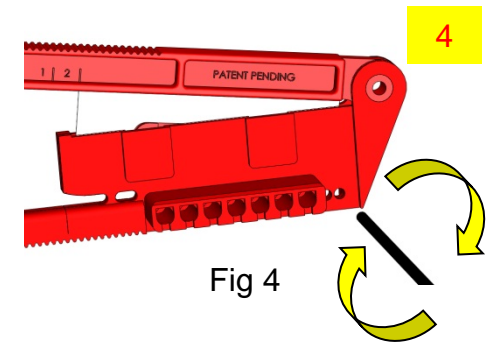
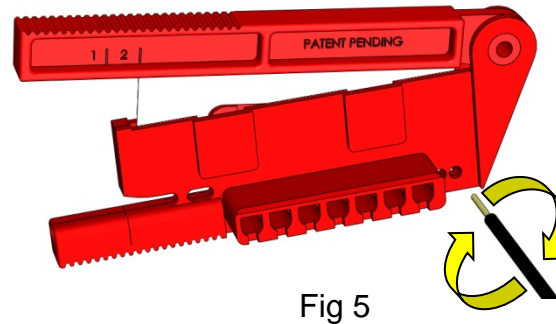

Fig 4
Fig 5
- 4.To strip the fiber, insert the fiber into the tool and close the tool. Keep the tool closed then rotate at least 1 ½ turns (Figure 4) Then pull outward to remove the jacket. (Figure 5)
6.If you are using duplex cable, Line up the second fiber to the seam of the tool as shown in Figure 5 and then remove that jacket as well.